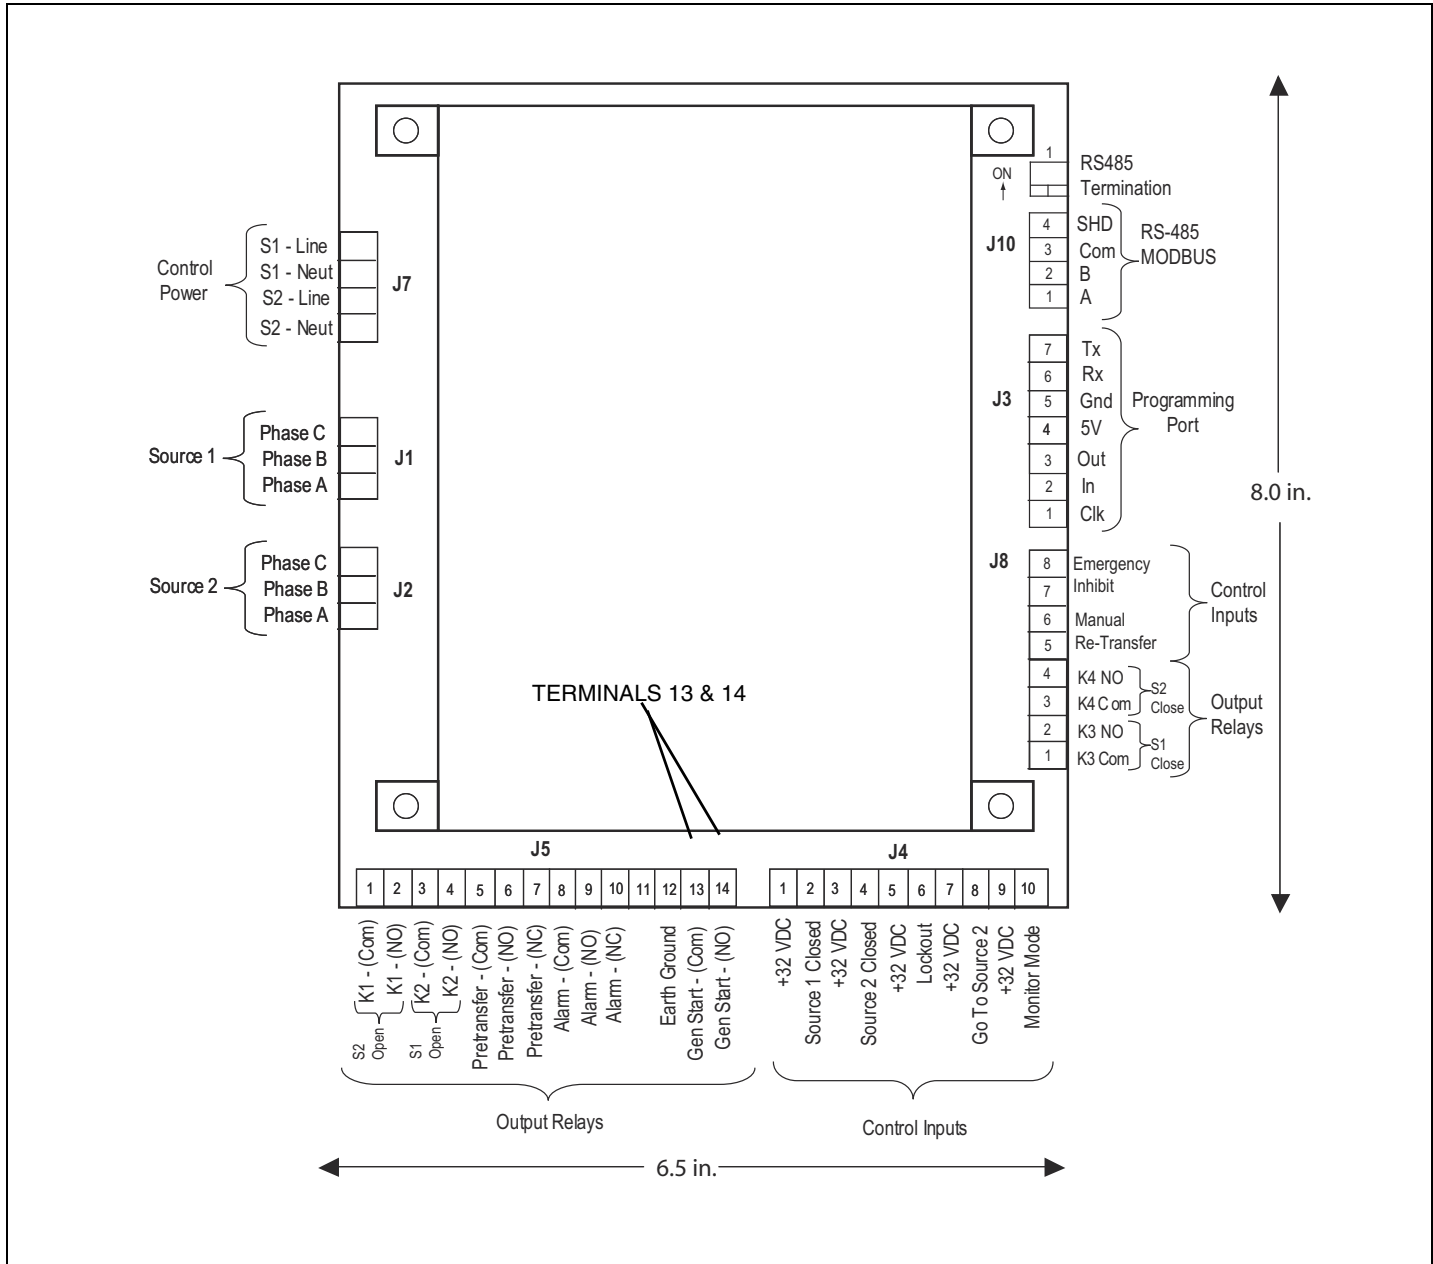

Figure 19. Engine Generator Control Connection (ATC-300+).
- Step 4:** Connect the Engine Generator Start wires to terminals 13 and 14 on the J-5 connector on the ATC-300+ Controller (Figure 19). This contact is CLOSED whenever